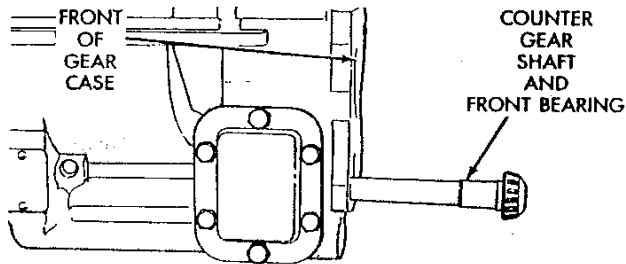

Fig. 12 Counter Gear Shaft And Front Bearing Removal
(5) Tap countershaft out of forward end of gear case (Fig. 12). Use hammer and brass punch to remove shaft and front bearing.
(6) If countershaft rear bearing is damaged, remove snap ring and press bearing off shaft.